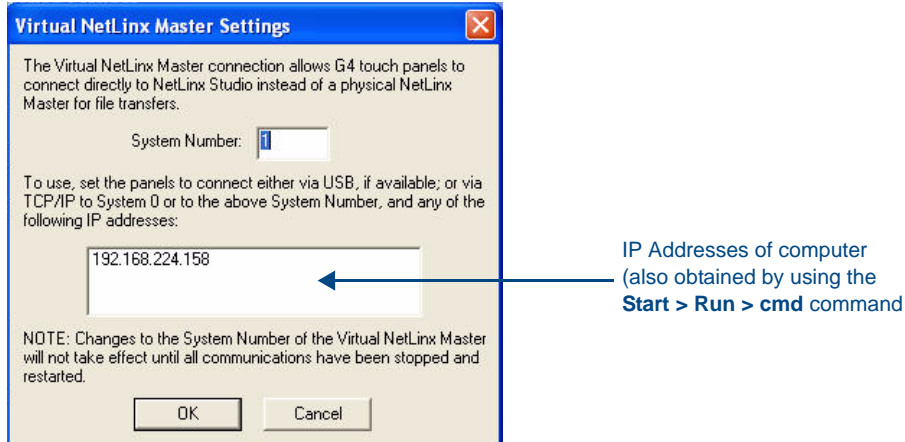

FIG. 40 Virtual NetLinx Master Settings dialog
- Click the **Edit Settings** button in the *Communications Settings* dialog to open the *Virtual NetLinx Master Settings* dialog (FIG. 40).